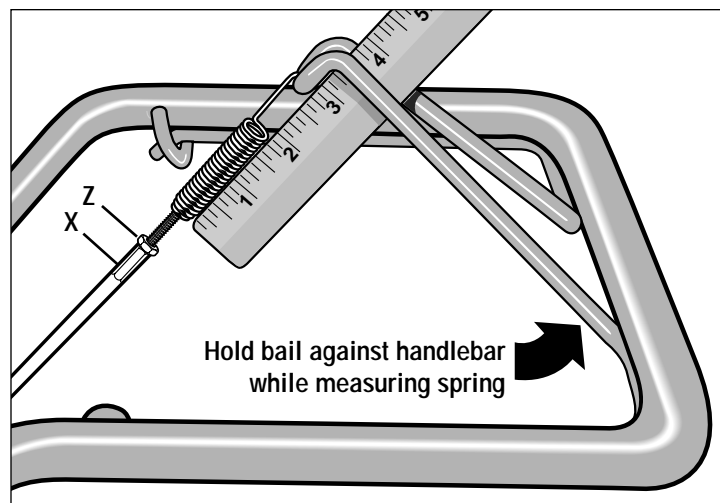

Fig. 2-7: Measure cable spring.
7. Lift and hold the Forward Clutch bail against the handlebar. See Fig. 2-7.
8. Measure the length of the cable spring between the ends of the coils (Fig. 2-7). The length should be approximately 1-7/8".
If the length is correct, turn the hex nut (Z, Fig. 2-7) tightly against the cable adjuster (X) while holding the adjuster in place. If the length is incorrect, you must make an adjustment to the cable tension as described in "Checking and Adjusting Forward Drive Belt Tension" in Section 5.